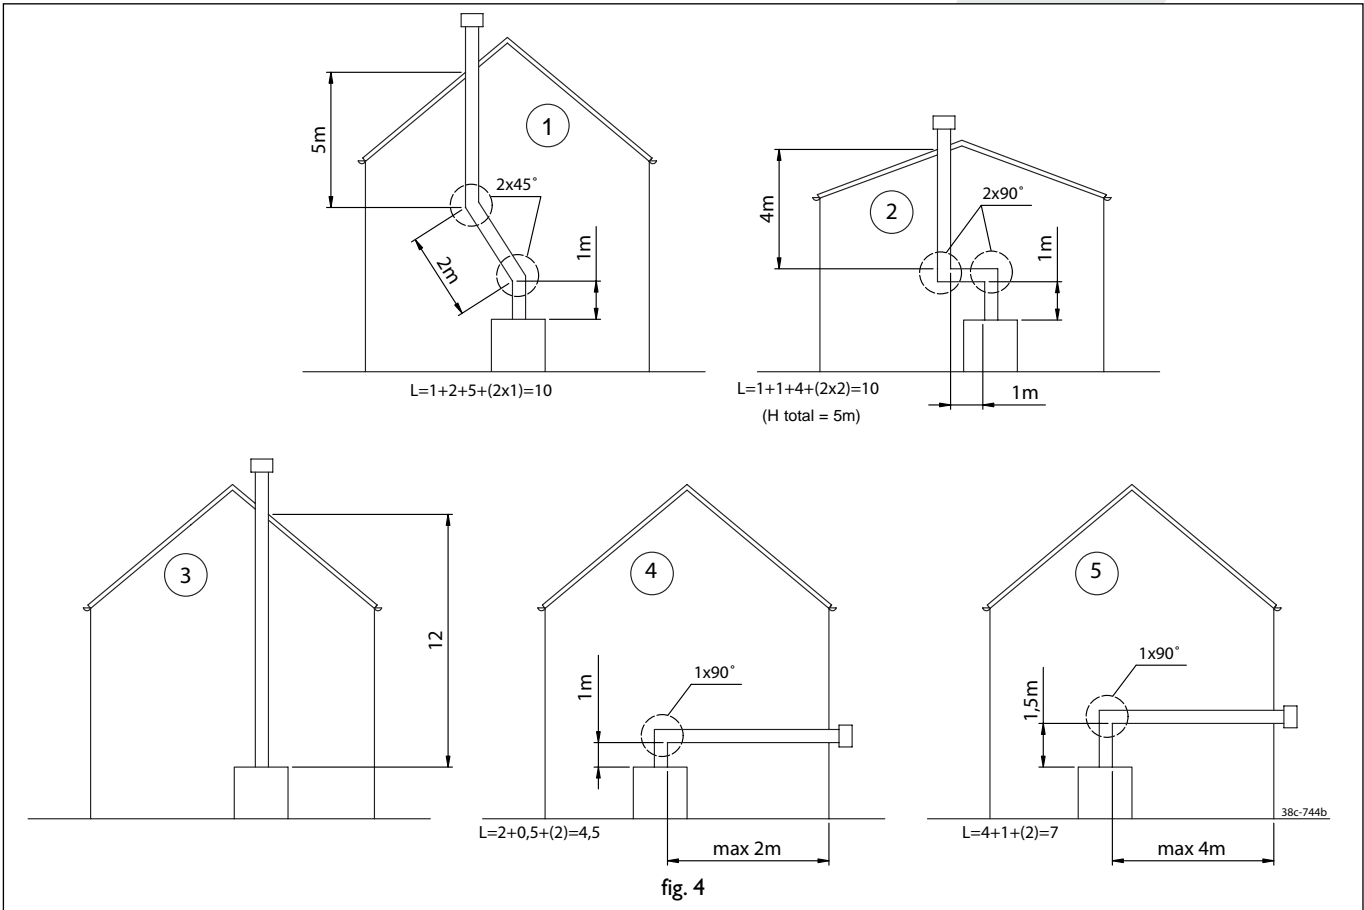

fig. 4
Possible connections (fig. 4)
- The first metre of pipe should always be fitted vertically, except example 5 in fig. 4.
The maximum total length is the sum of the pipe lengths plus the equivalent length for the bends (see the 5 examples in fig. 4).
Fig. 4 illustrates how to calculate the total lengths of pipe.